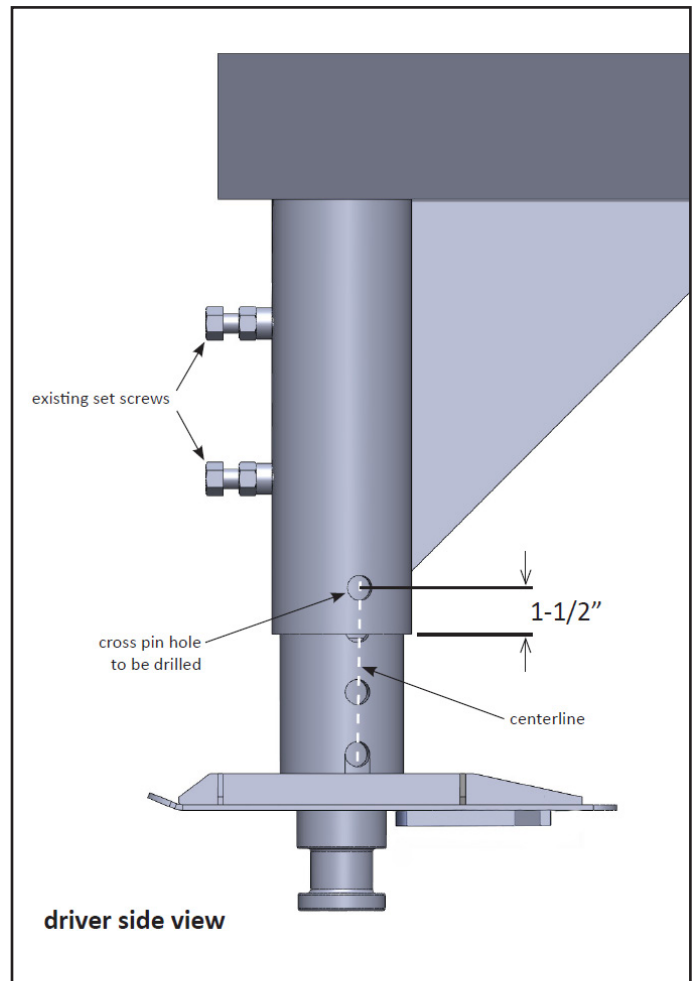

Figure 2
1. Insert the Horse Trailer Adapter into the trailer's drop tube, leaving the last two holes visible (see Figure 2) and tighten the existing set screws to hold the adapter in place.
3. Once the adapter is square to the trailer, starting on the driver side, draw a vertical center line through the holes in the adapter, extending the line at least 2" up the drop tube of your trailer. This will help you in finding the correct location to drill for the cross pin. See Figure 2.